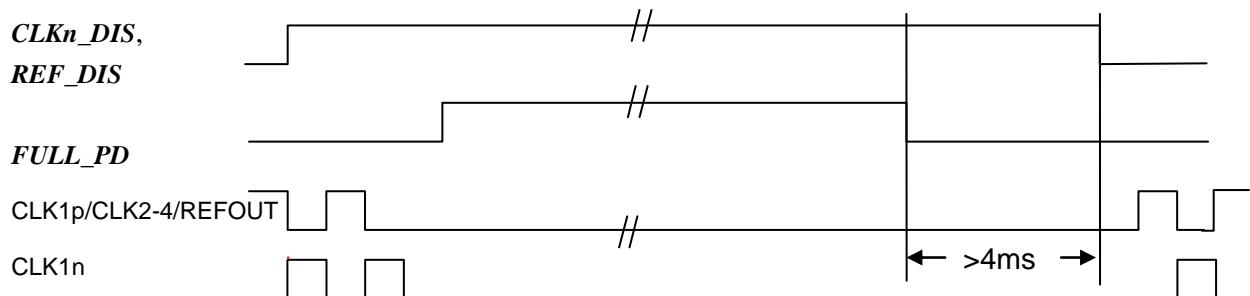

Figure.6 Full Down sequence
(9) Time to settle output into 0.1% of specified frequency from **FULL\_PD** is "L". Refer to Figure.6 on "Full Power Down sequence".